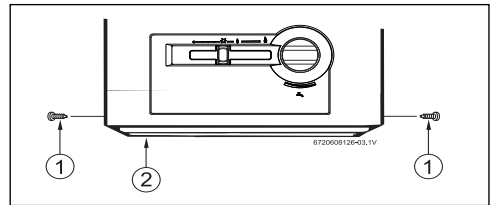

Fig. 5 Incandescent particle tray illustration
- ▶ Install incandescent particle tray using screws provided as shown in Fig. 5.